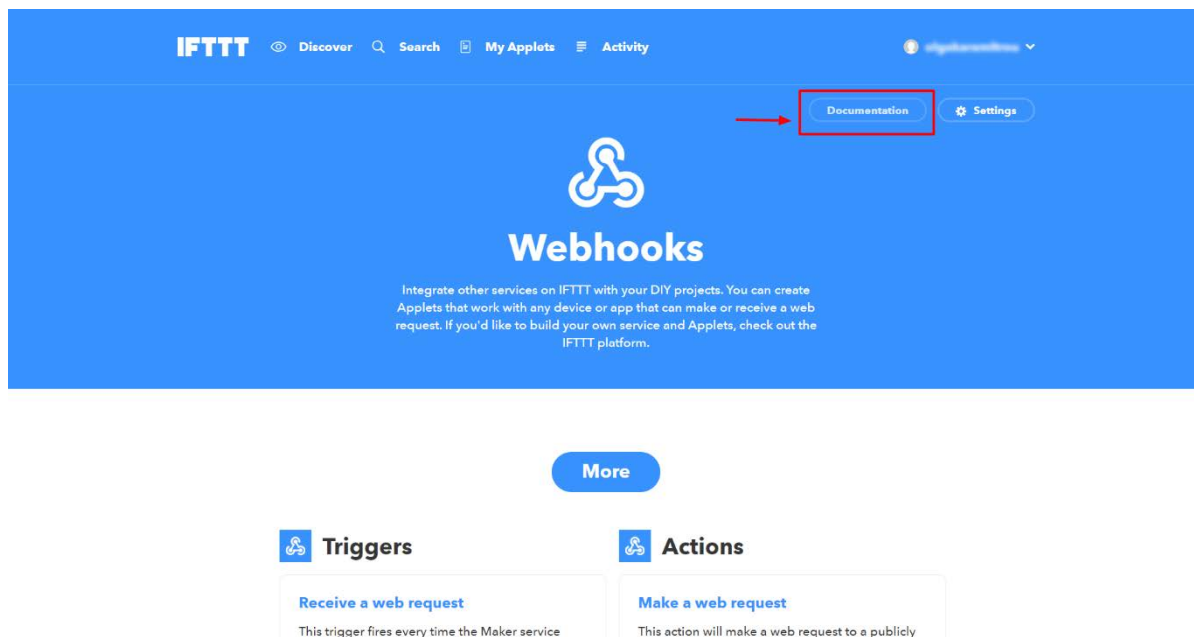

Figure 85: IFTTT Web Hook Key Step 2
2. In the **'Webhooks'** screen click **Documentation** (Figure 85).